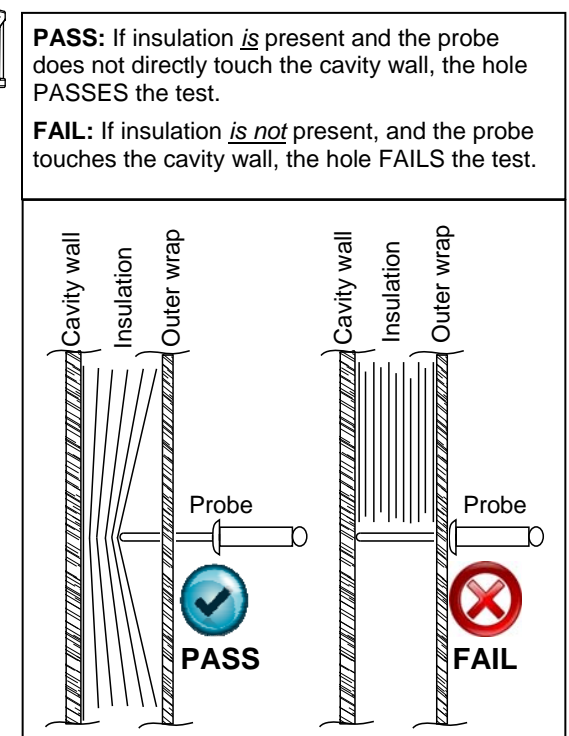

Figure 2
5. Begin test by inserting probe into Hole A as shown in Figure 2; use probe which can best pass through hole.